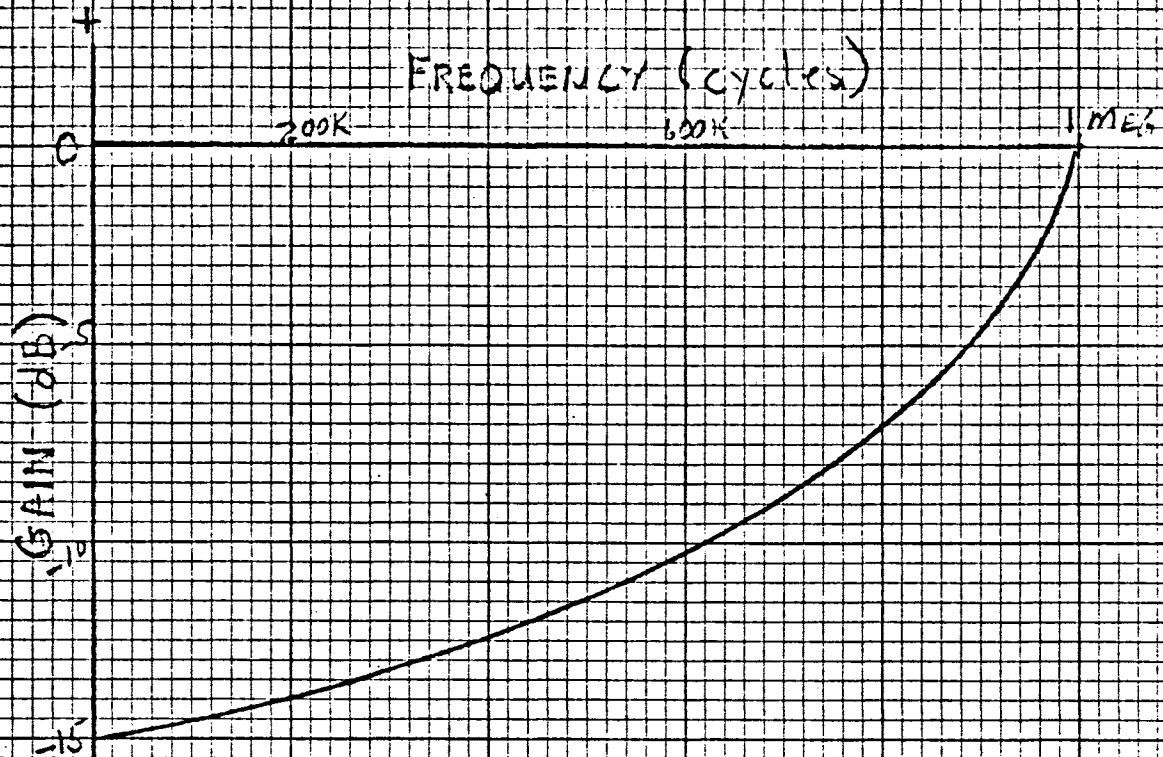

FIG 3 : PASSIVE EQUALIZATION
1. Passive equalization (shaped loss) (See Fig 3)